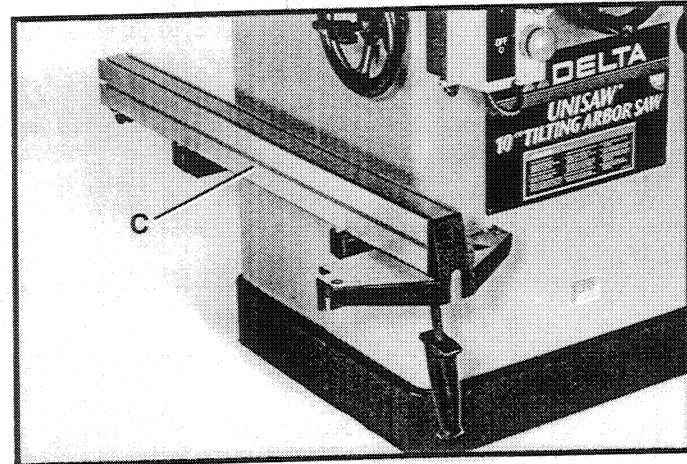

Fig. 58
2. Figure 58 illustrates the UniRip® fence (C), (when not in use) positioned on the two holder brackets.